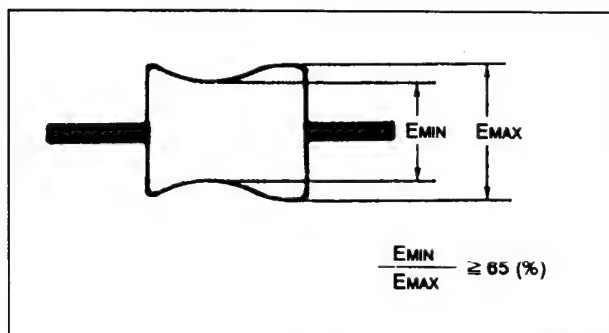

Fig. 45
- 2) Then, confirm that the minimum amplitude value (E_{MIN}) is 65% of the maximum value (E_{MAX}) or larger (Fig. 45).
- 3) Confirm that no large fluctuations occur on the waveform (Fig. 45).